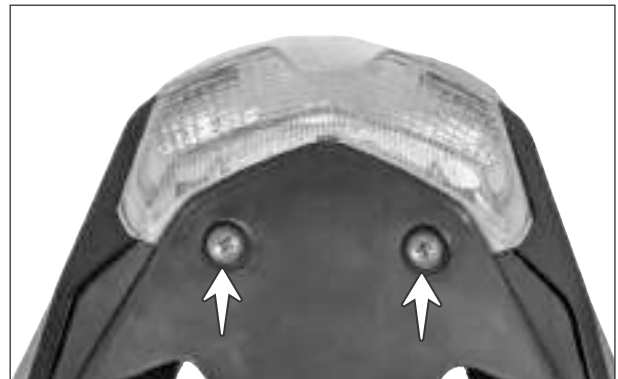

Fig. 5.59
- ▮ Remove the CRR pan head screw (M6x16 - 2 nos.) from the tail assembly mounting. (Fig. 5.59)